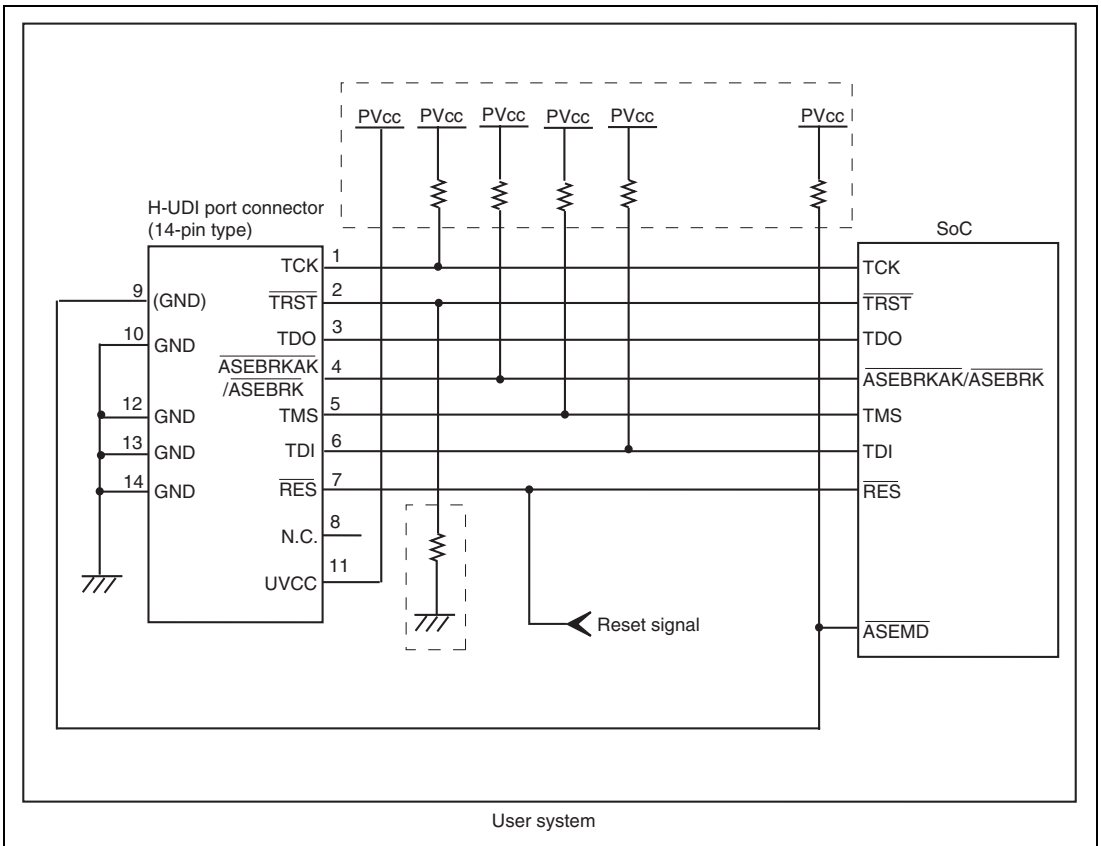

Figure 1.6 Recommended Circuit for Connection between the H-UDI Port Connector and MCU when the Emulator is in Use (14-Pin Type)
Figure 1.6 shows a recommended circuit for connection between the H-UDI port connector (14 pins) and the MCU when the emulator is in use.
- (1) When the emulator is used: ASEMD# = 0
- (2) When the emulator is not used: ASEMD# = 1Figure 1.6 shows an example of circuits that allow the ASEMD# pin to be GND (0) whenever the emulator is connected by using the user system interface cable. When the ASEMD# pin is changed by switches, etc., ground pin 9. Do not connect this pin to the ASEMD# pin.
When the circuit is connected as shown in figure 1.6, the switches of the emulator are set as SW2 = 1 and SW3 = 1. For details, refer to section 3.8, Setting the DIP Switches, in the SuperH™ Family E10A-USB Emulator User's Manual.